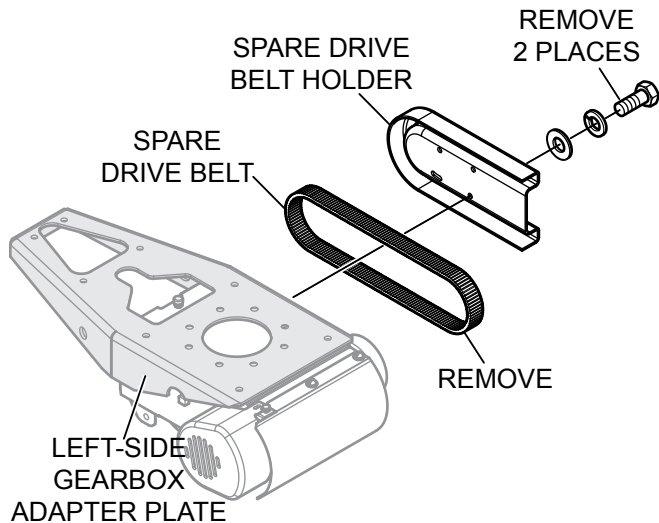

Figure 17. Spare Belt Removal
1. To replace an existing drive belt with the spare drive belt, remove the 2 bolts that secure the spare belt holder to the left-side gearbox adapter plate. (Figure 17) Take care not to contaminate the replacement drive belt with grease or dirt.